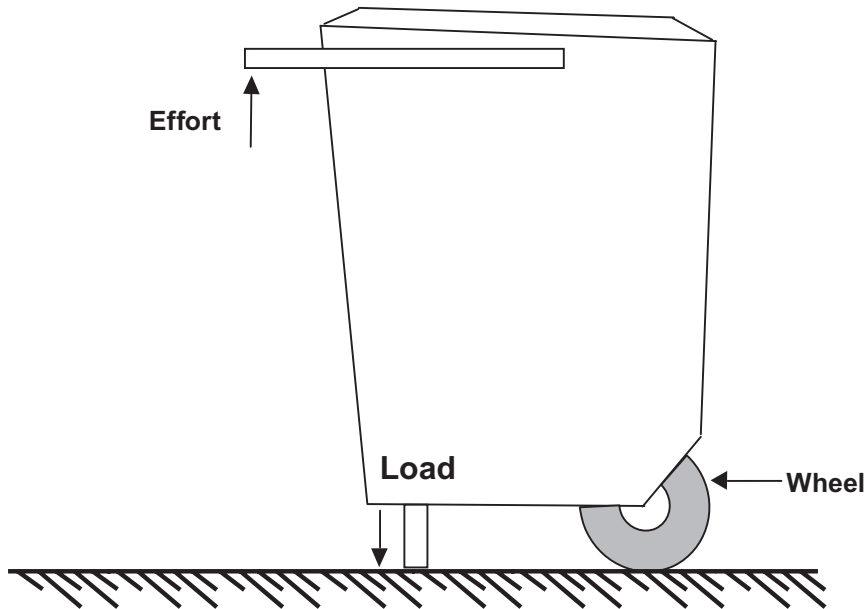

Fig. 11(a)
**11** Fig. 11(a) shows a prototype industrial waste bin.